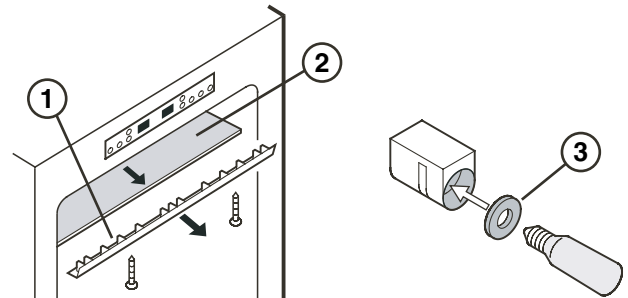

Figure 10
1. Remove the two screws securing the cover (**Fig. 10, ①**). Pull the cover straight out.
2. Remove the glass plate (**Fig. 10, ②**).
3. Remove the defective bulb. Make sure the seal (**Fig. 10, ③**) is placed on the new bulb before installing it.